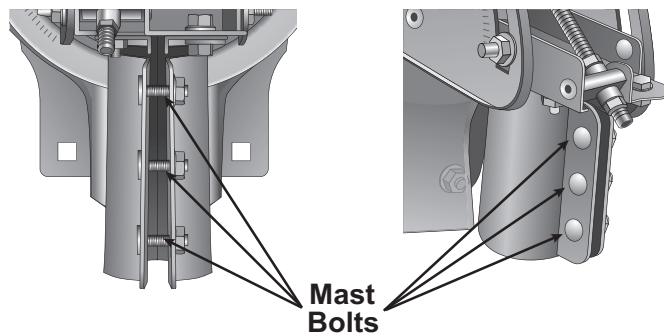

Figure 7. Mast bolts
- 4. Tighten three mast bolts and reconfirm signal strength.** With the peaking meter still connected, tighten the three mast bolts labeled with a T to the torque values listed in Table 1 (see Figure 7). Reconfirm signal strength after tightening the bolts.